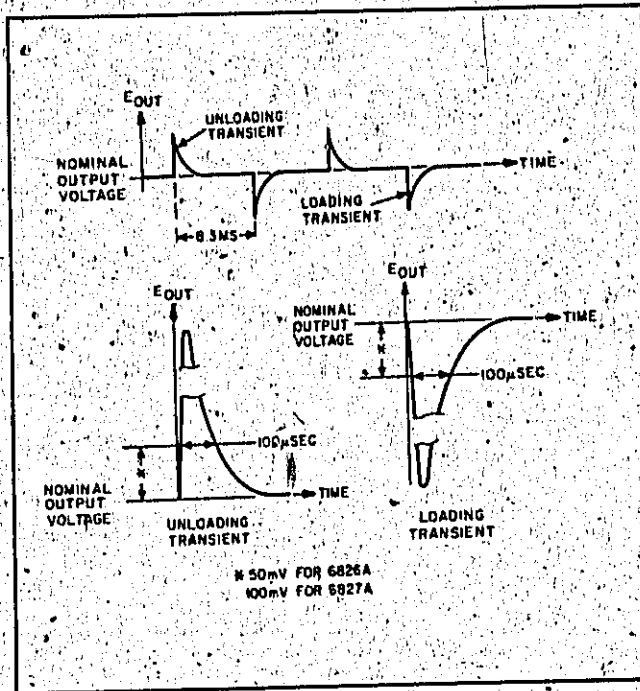

Figure 5-5. Transient Recovery Time, Waveforms
k. Starting from the major graticule division representative of time zero, count to the right 100 μ sec and vertically 50mV for 6826A or 100mV for 6827A. Recovery should be within these tolerances as illustrated in Figure 5-5.